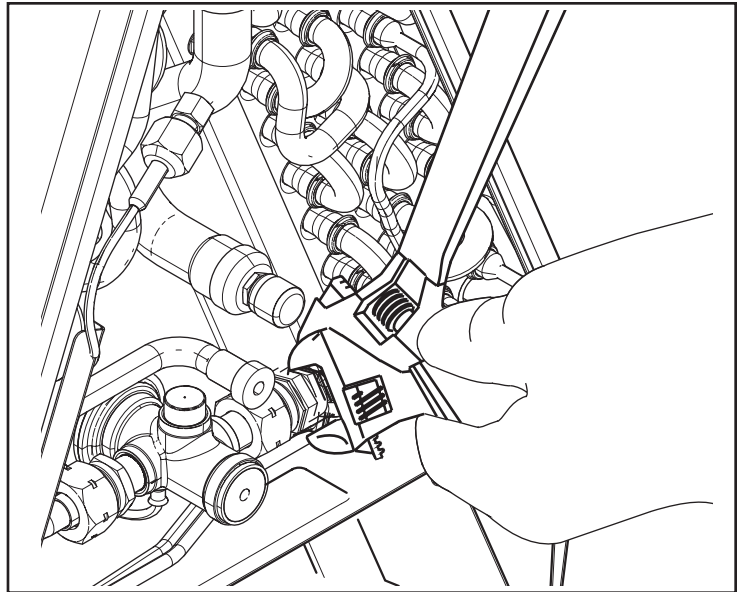

Figure 59 – Install new TXV
- Put the TXV in place and using two adjustable wrenches, attach and tighten the TXV flow control assembly at the mechanical fitting as shown in Figure 59. Tighten the fitting approximately 1/2 a turn past finger tight.